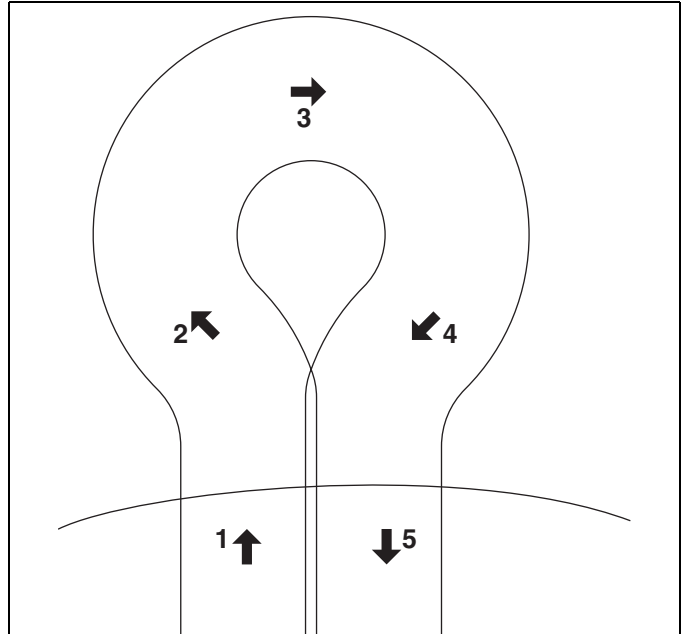

Figure 6F
- e. To turn to the right, start by turning mower slightly to the left (**2**). When the mower has moved approximately 1/2 its own width to the left, swing it around quickly to the right (**3 and 4**), guiding the mower with your right hand. This method makes it possible to turn around quickly with very few steps. **[Figure 6F]**